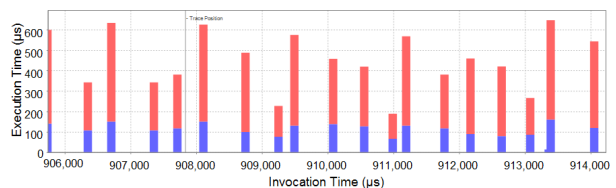

Fig 1: An illustration of short and long times
Figures 1 and 2 demonstrate how RapiTime Rewind works:
2. Now you can begin to investigate *where* the short and long times occur (see Fig 1 above).